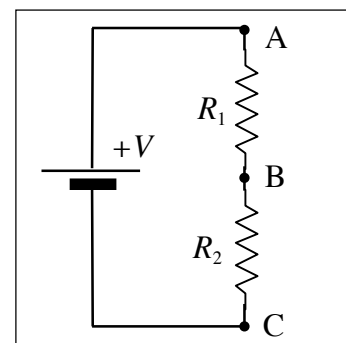

Figure 5 Potential divider
The simple circuit of figure 5 uses resistors in series to obtain a voltage lower than that directly available from the battery or other source. By Ohm's Law the current flowing is $I = V/(R_1 + R_2)$, so the potential difference between A and B is $V_{AB} = IR_1 = VR_1/(R_1 + R_2)$ while that between B and C is $V_{BC} = VR_2/(R_1 + R_2)$. Any voltage between ground potential and V can be obtained by an appropriate choice of R_1 and R_2 .
- Connect the circuit of figure 5 using the voltage supply provided. For R_1 and R_2 use resistors of 2.2 k Ω and 4.7 k Ω , respectively.